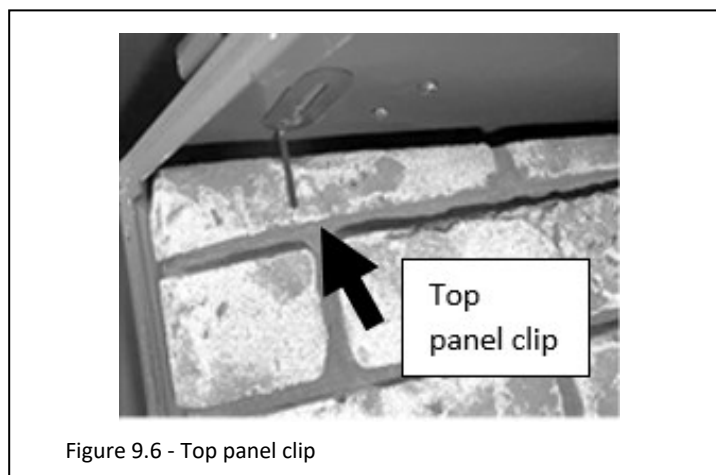

Figure 9.6 - Top panel clip
2. Install side refractory by sliding top of panel up and into position. The front of the panel will sit on top of the refractory panel spacer. Secure with panel clips previously bent (Figure 9.6).
4. Install top refractory clips previously bent (Figure 9.6).